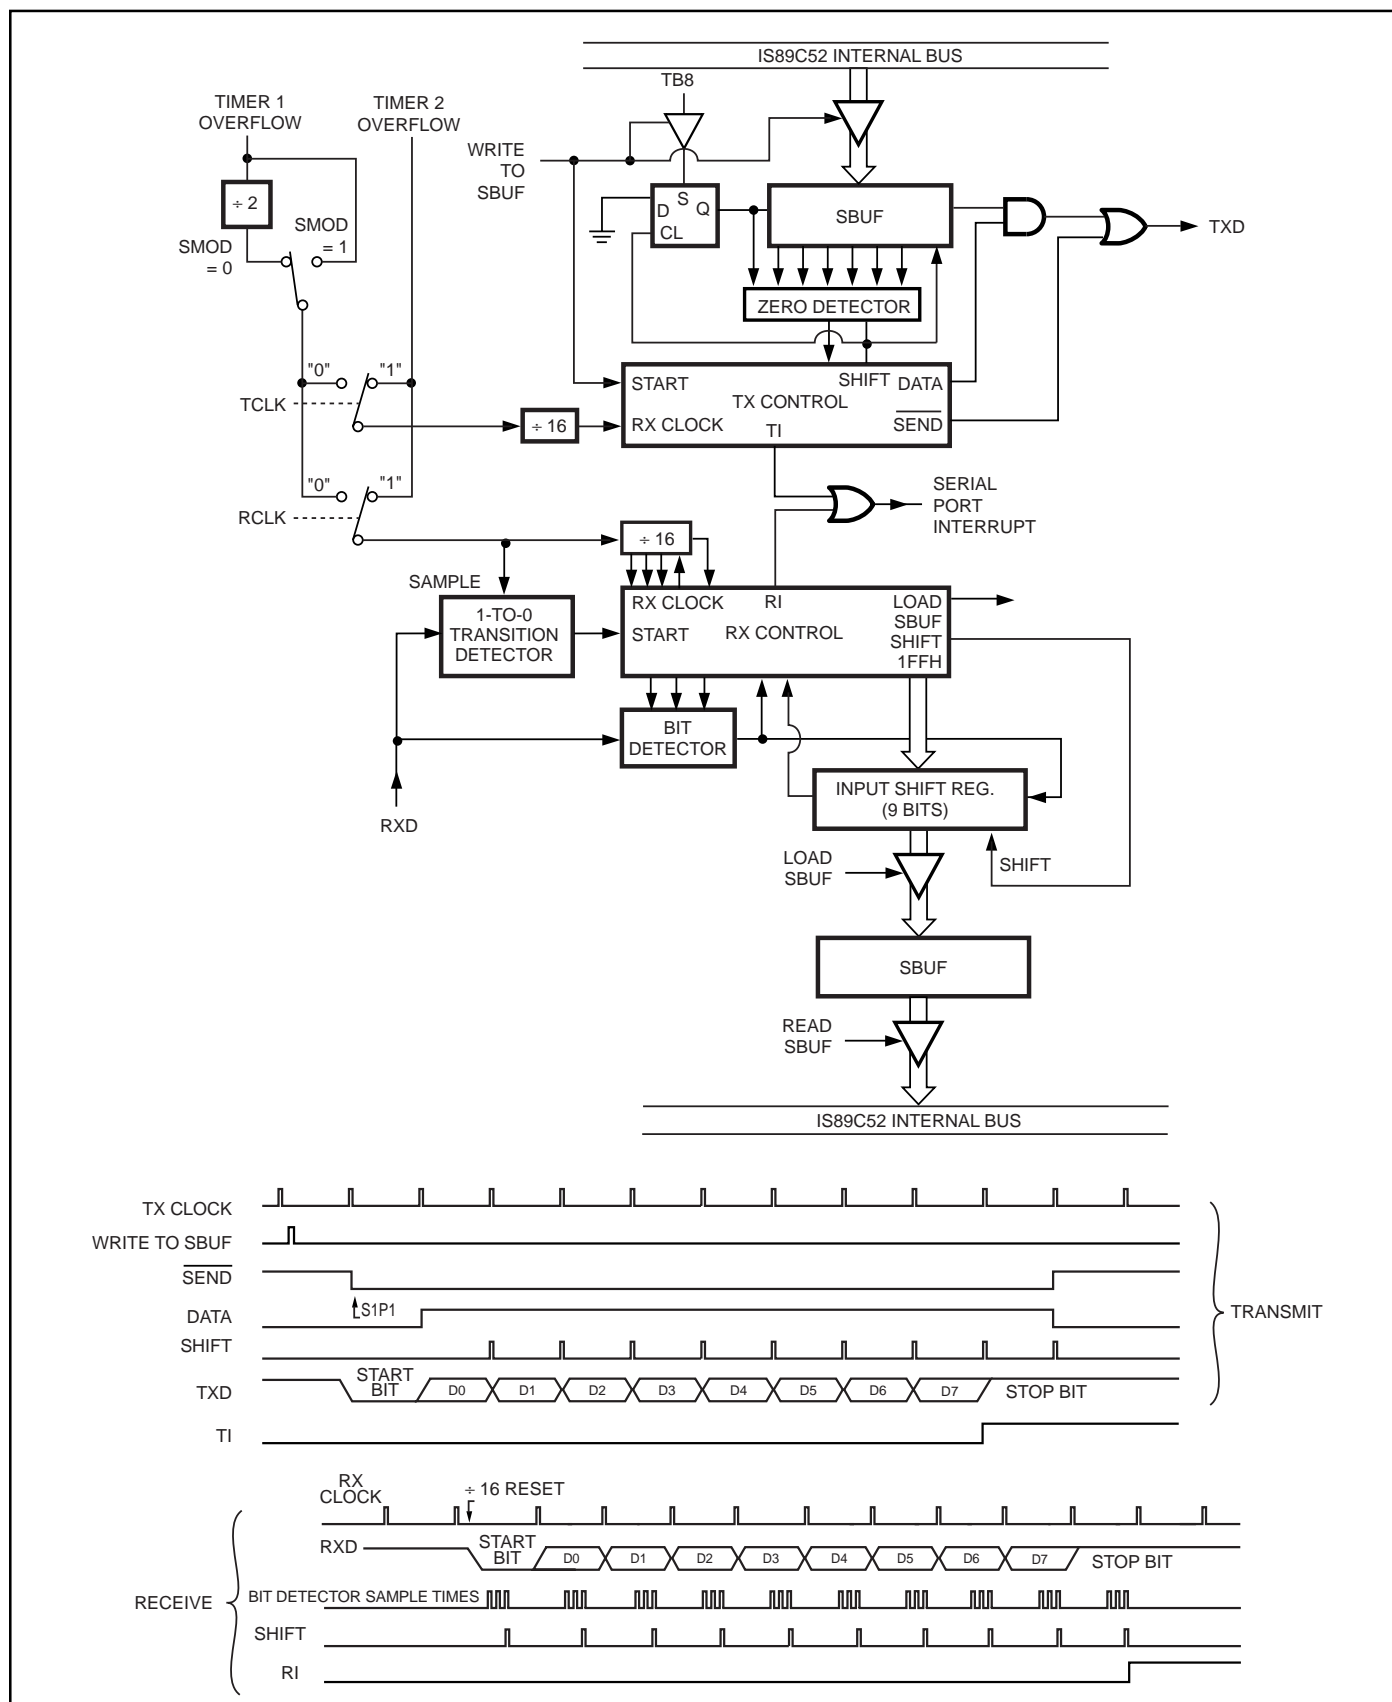

Figure 16. Serial Port Mode 1
Ten bits are transmitted (through TXD) or received (through RXD): a start bit (0), eight data bits (LSB first), and a stop bit (1). On receive, the stop bit goes into RB8 in Special Function Register SCON. The baud rate is variable (see Figure 16).
Figure 16 shows a simplified functional diagram of the serial port in Mode 1 and associated timings for transmit and receive.